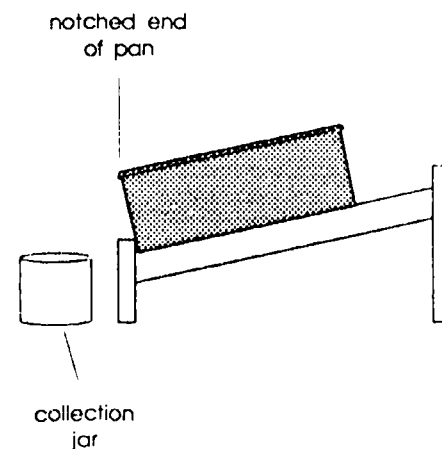

Figure 2. Mount and brace pan on inclined surface. Position collection jar below notch.
4. Place a collection jar below the notch of the pan (see Figure 2).